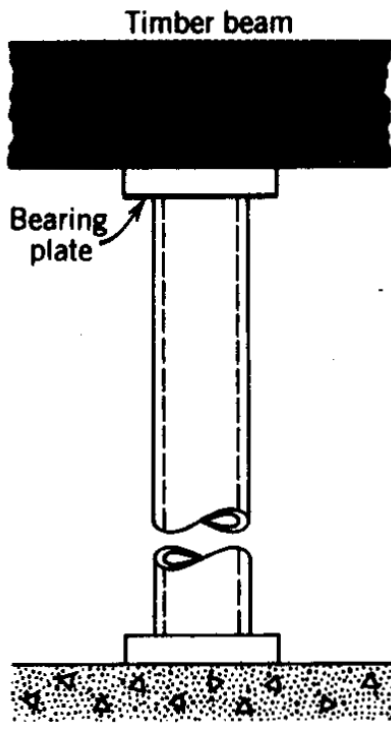

Fig. P4
- 4) The steel pipe column shown in Fig. P4 has an outside diameter of 150 mm and a wall thickness of 15 mm. The load imposed on the column by the timber beam is 150 kN. Determine